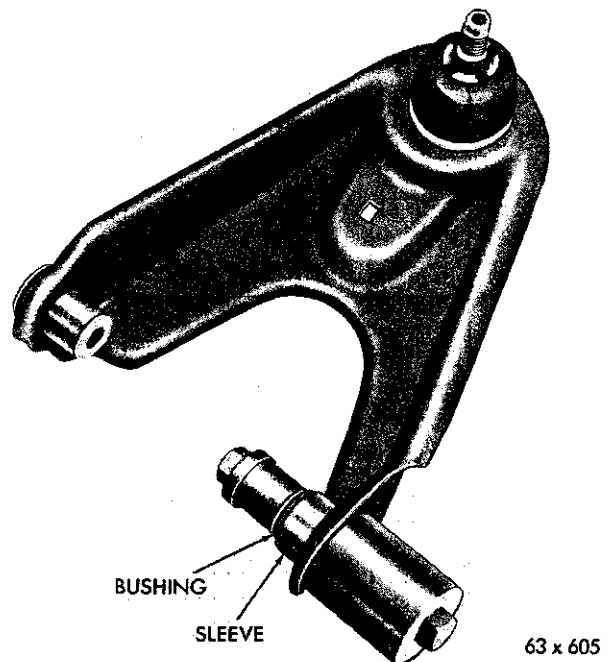

Fig. 11—Removing the Upper Control Arm Bushing
(1) Remove the ball joint using Tool C-3560 for Models VC-1, VC-2, and VC-3, or Tool C-3561 for VY-1. The ball joint balloon type seal will come off as the ball joint is removed.
(2) Assemble Tool C-3710 (using adaptor SP-3826 in place of SP-3088) (Tool C-3669 with adaptor SP-3233A is the same as Tool C-3710) over the bushing and press the bushing out of the arm (from inside out) (Fig. 11). The bushing support sleeve will come off as the bushing is removed. **Be sure the control arm is firmly supported if a hammer and drift is used in place of the tool.**